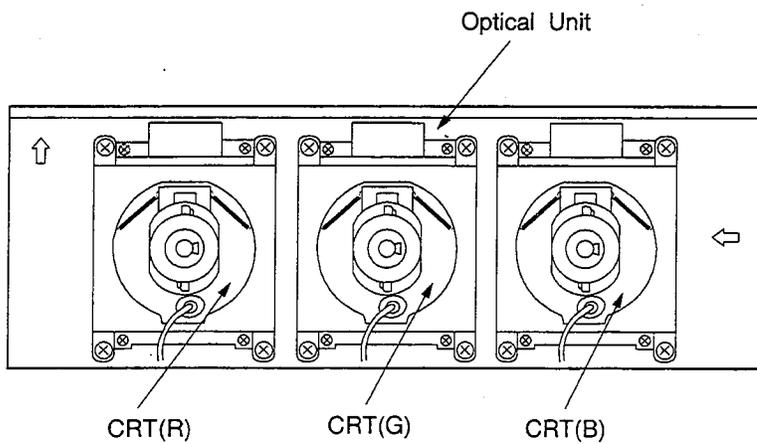

Fig.6-5
1. Carefully position the replacement CRTs and fasten in place, using 4 screws (d) as shown in Figs. 6-5 and 6-6.